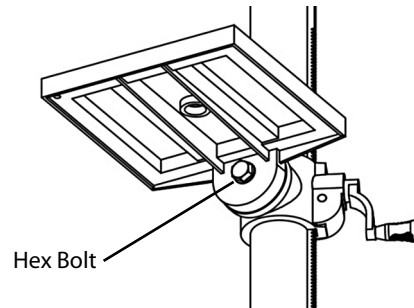

Figure 17 - Tilt adjustment hex bolt.
2. Tilt adjustment (Figures 17 and 18).